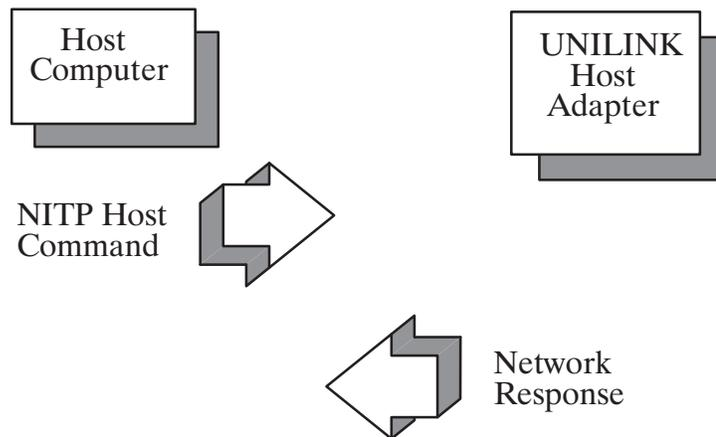

Figure 3–8 NITP Command/Response Sequence
- The host computer must wait for the adapter response for the command issued, before another command can be issued. This command/response sequence, illustrated in Figure 3–8, ensures that the response matches the command.